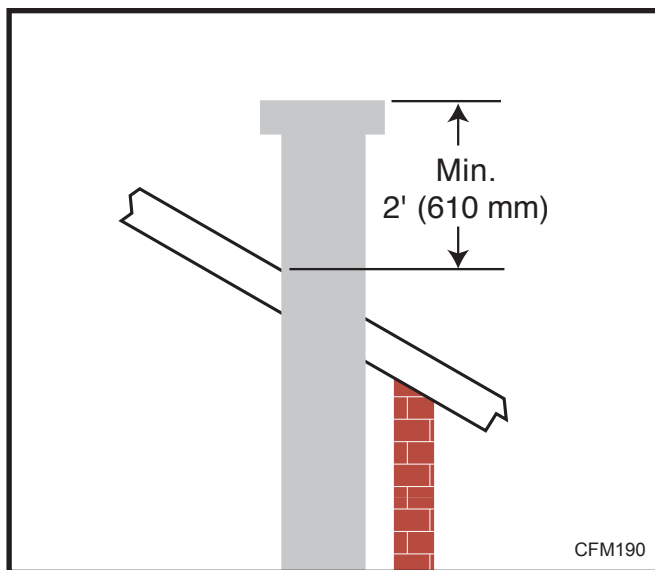

Fig. 33 Minimum termination to roof clearance.
- The minimum height of the vent above the highest point of penetration through the roof is 2' (610 mm). (Fig. 33)
10. Add additional vent lengths for proper height. (Fig. 33)